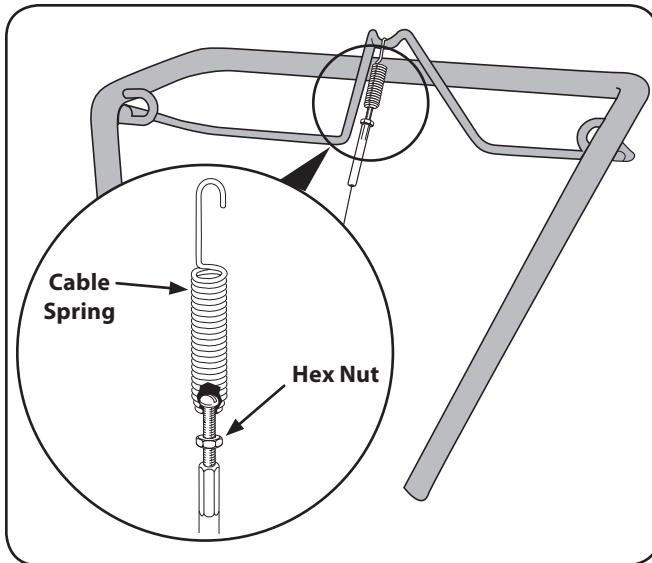

Figure 3-5
2. Thread the #10-24 hex nut halfway onto the screw which runs through the spring. See Inset Fig. 3-5.